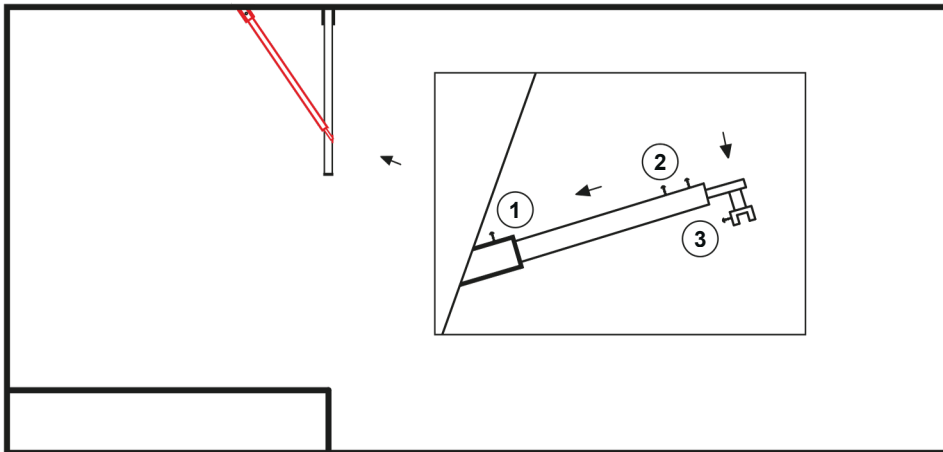
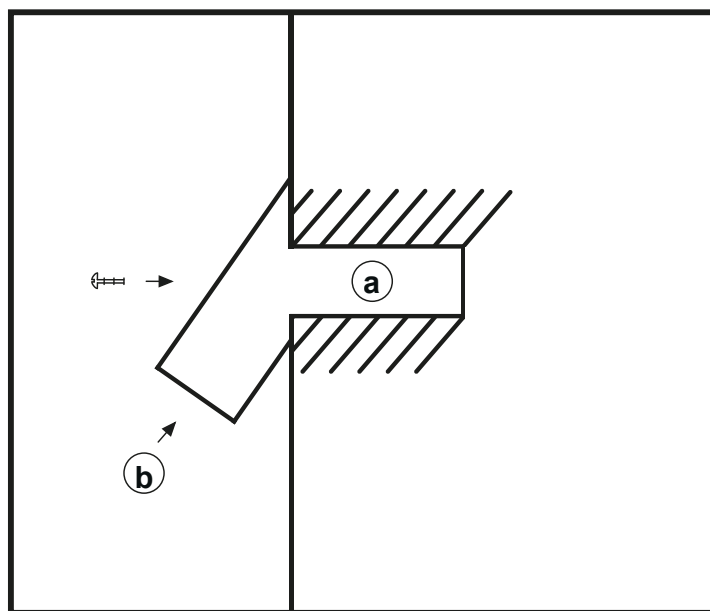

Figure 9: Top view
Figure 10: Top view
20. Place the included gaskets into the mounting clamp (3), between the parts that go over the glass and U-profile, to ensure the glass does not touch the metal. (Figure 9)
22. Mark on the wall where the mounting hole (a) needs to be drilled and remove the telescopic tube. (Figure 10)
24. Unscrew the screw (1) on the telescopic tube (see Figure 9) and remove the wall-mounted part (b) (see Figure 10).
26. Take the telescopic tube and carefully insert it into the wall mount (b) (Figure 10) and rest the other end (3) (Figure 9) on the planned location, on the glass and the U-profile.
36. Tighten and secure the telescope screw (1). (Figure 9)